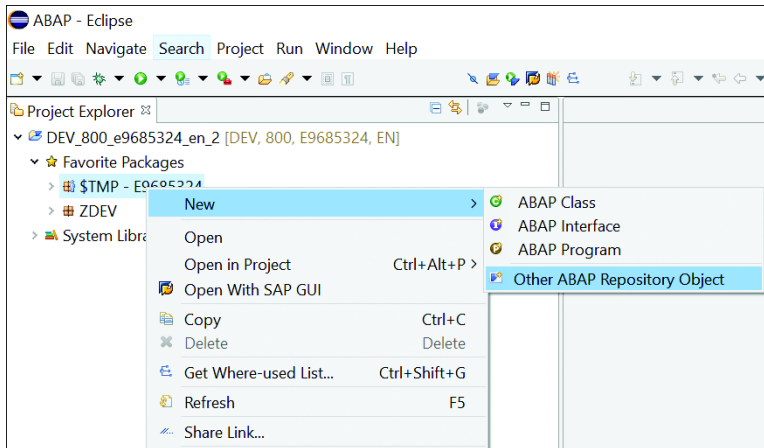

Figure 10.45 Create New Repository Object
2. In the Eclipse IDE, create a new project (or use existing project). Chose the package in which you want to create the ABAP CDS view. Right-click the package and select **NEW • OTHER ABAP REPOSITORY OBJECT**, as shown in Figure 10.45.